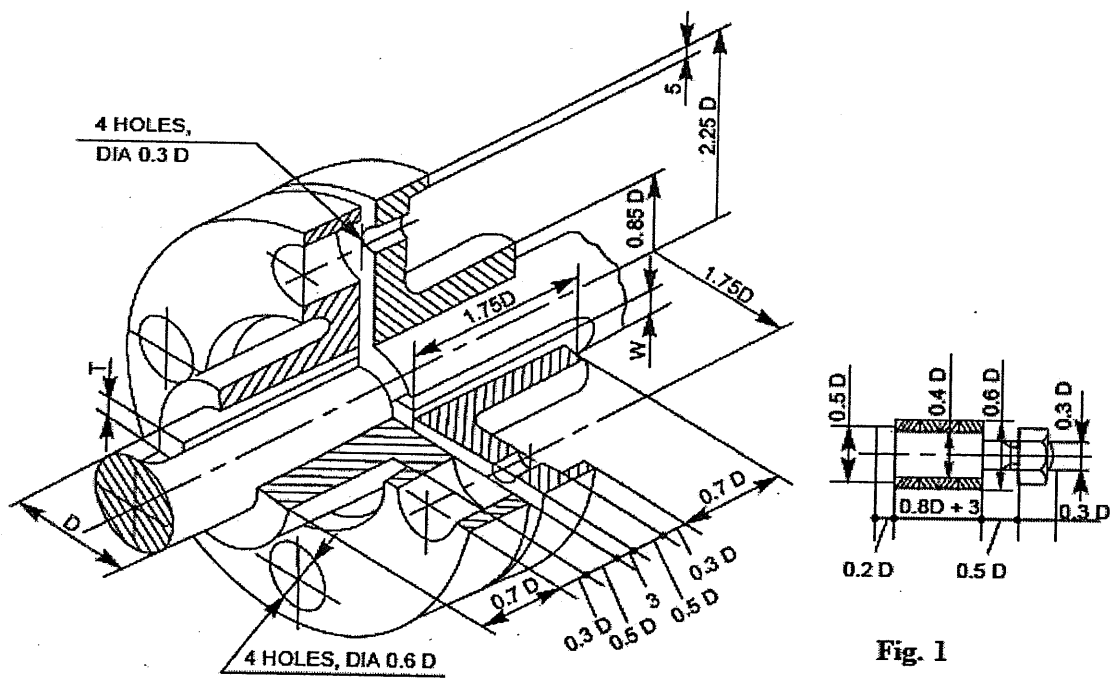

Fig. 1
- II. Draw the sectional view from the front, and view from the side of a cotter joint with sleeve used to connect two rods of 30 mm diameter each. (15)
- III. Draw (i) half sectional view from the front, top half in section (ii) view from the side of a bushed pin type flange coupling (fig.1), indicating proportions to connect two shafts, each of diameter 30 mm. (20)